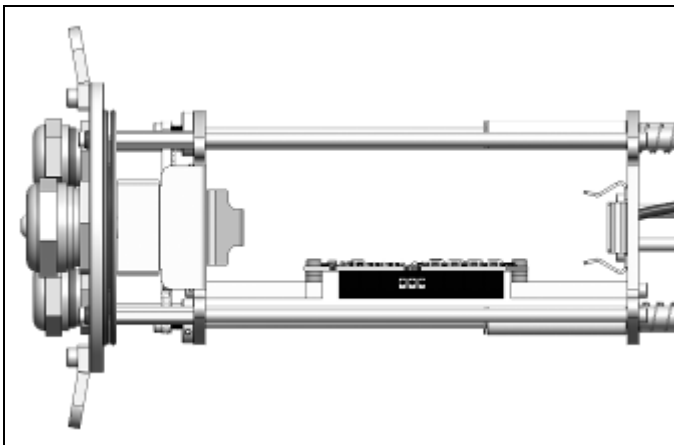

Figure 49: Mounting of the industrial PIF (top view)
5. Fix the Industrial PIF with the screws (M3x5) as shown in **Figure 49**.